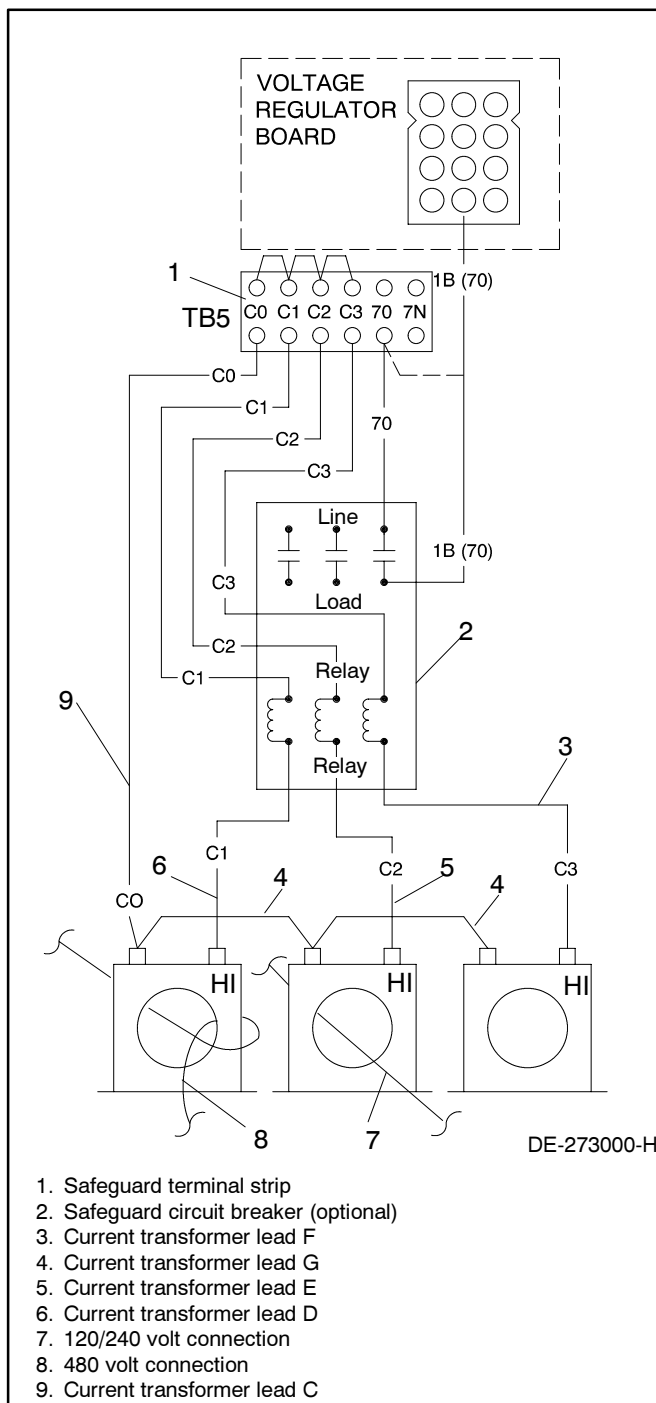
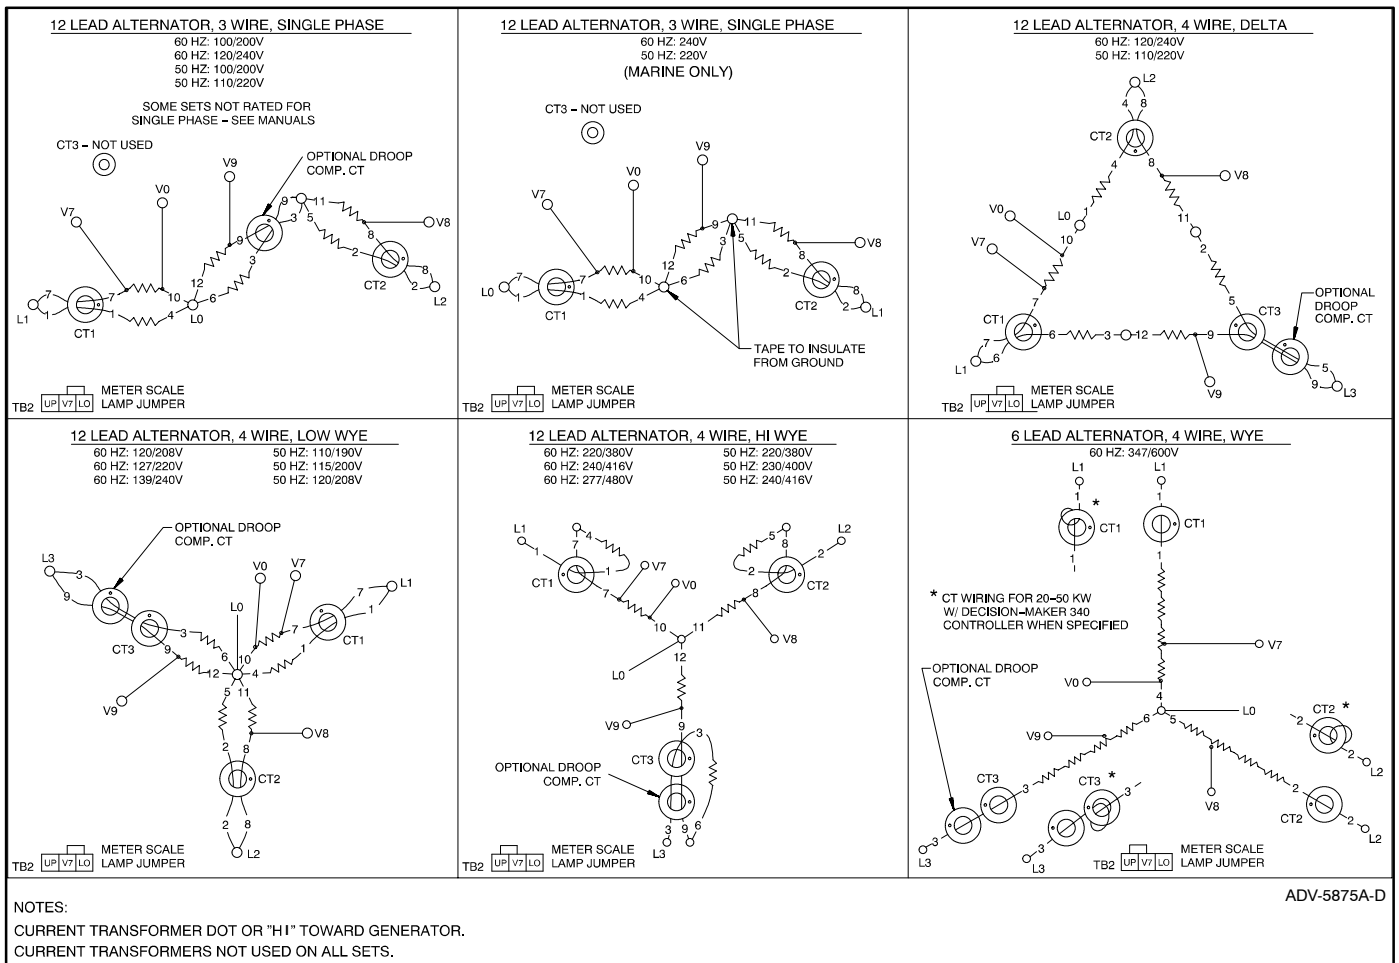
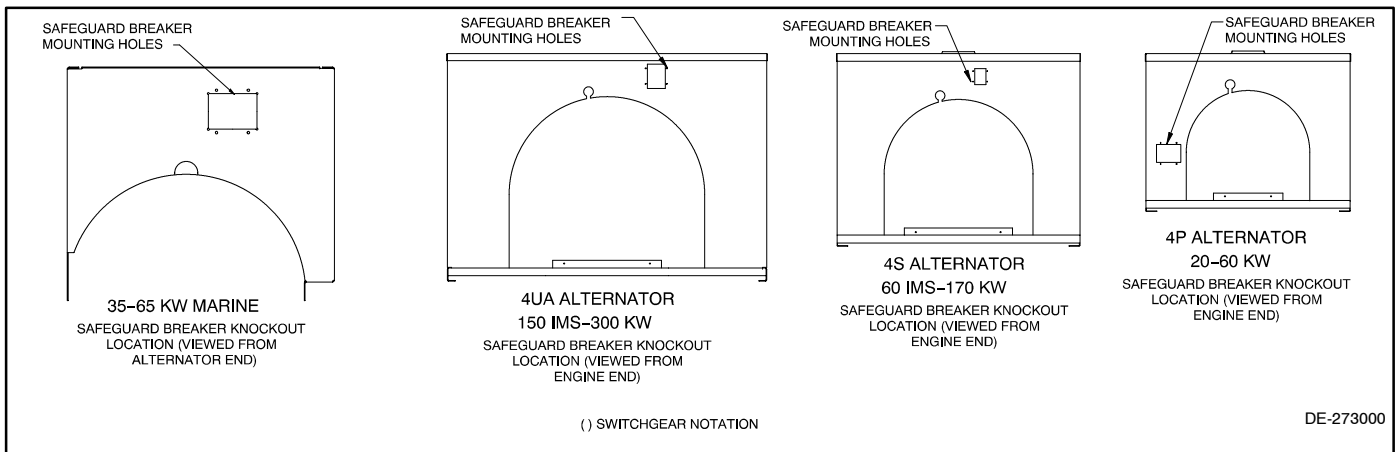

Figure 2 Current Transformer Circuit Connections
Figure 3 Generator Connections
Figure 4 Safeguard Breaker Location
- 1.6 For generator sets with 120/240-volt connections place the generator set output leads through the current transformer **one** turn. For generator sets with 480-volt connections route the generator set output leads through the current transformer **two** turns. See Figure 2 and Figure 3.
- 1.8 Make remaining current transformer connections as shown in Figure 2. See Figure 4 for the safeguard circuit breaker location.